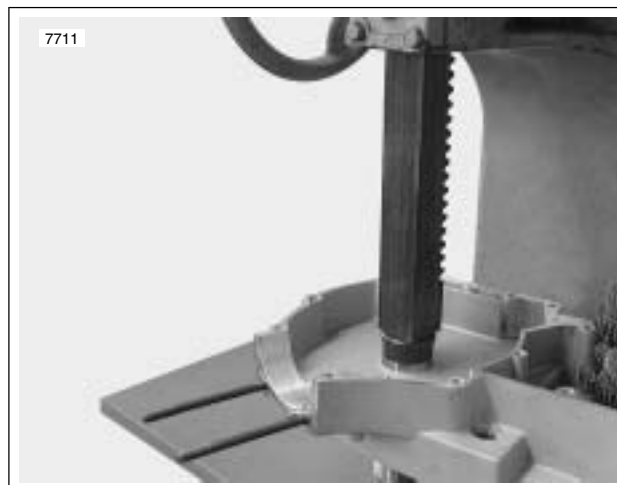

Figure 3-128. Right Outer Bearing Race Installation
5. See Figure 3-128. Insert "SPORTSTER" end of installer base into outboard side of left crankcase half bearing bore until base contacts outboard surface of installed left outer race.
7. See Figure 3-128. Insert shaft of installer plug through right outer race and into installer base. Press race into bore until firmly seated against retaining ring.